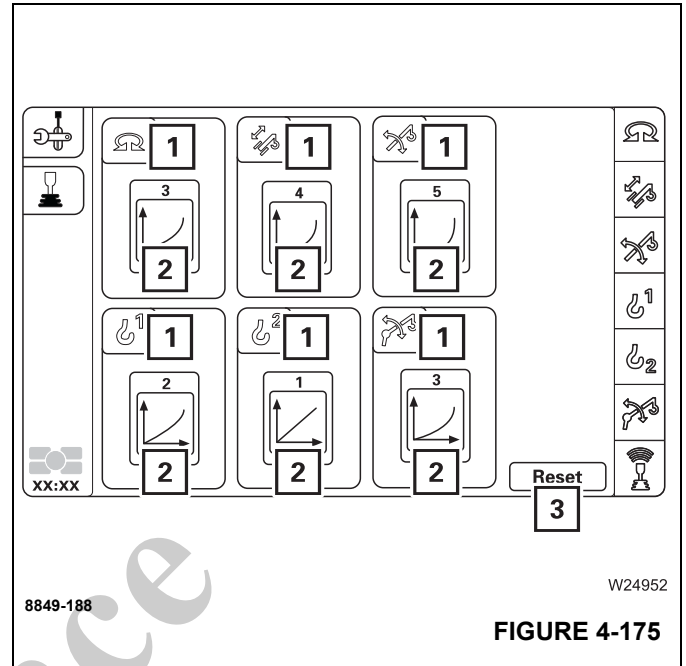

FIGURE 4-175
The symbols (2), (Figure 4-175) show the set characteristic curves of the power units (1).